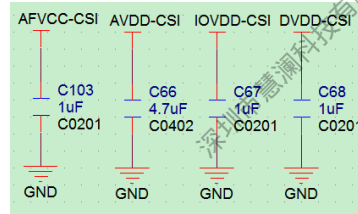

Figure 2-56 Camera Power
- The power supply of the camera (AVDD-CSI, DVDD-CSI, IOVDD-CSI, AFVCC-CSI) must be connected to filter capacitors. Refer to the camera sensor specification for the capacitance. As shown in Figure 2-56.